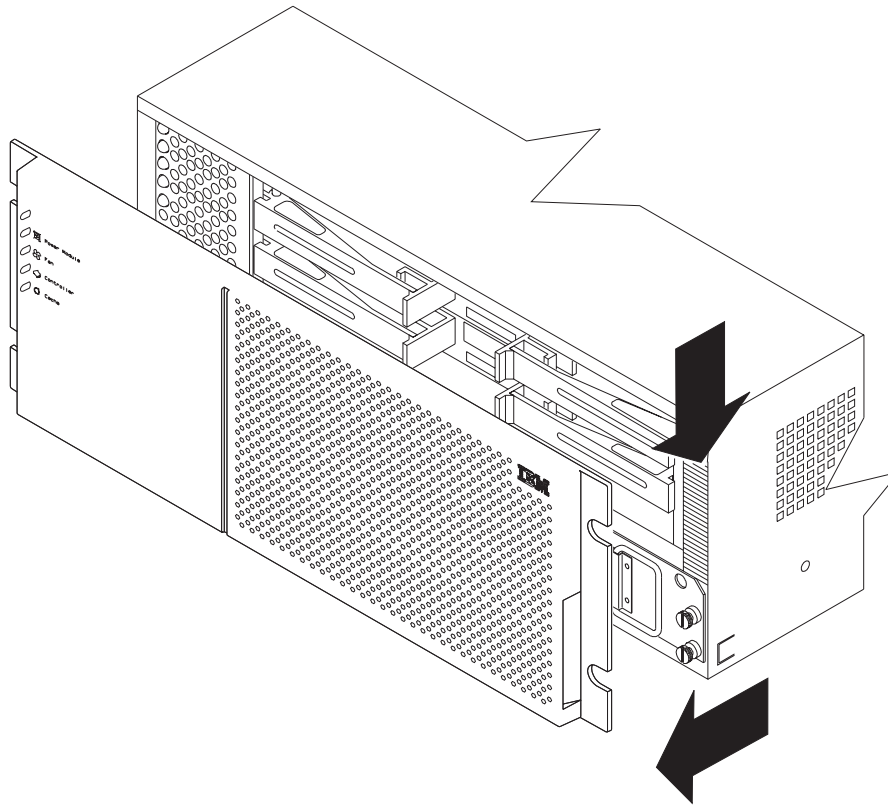

Figure 22. Removing and Replacing a Front Cover
1. Remove the front cover from the controller unit (Figure 22 on page 42).
3. Replace the front cover on the controller unit (Figure 22 on page 42).
2. Remove the front cover (Figure 22 on page 42).